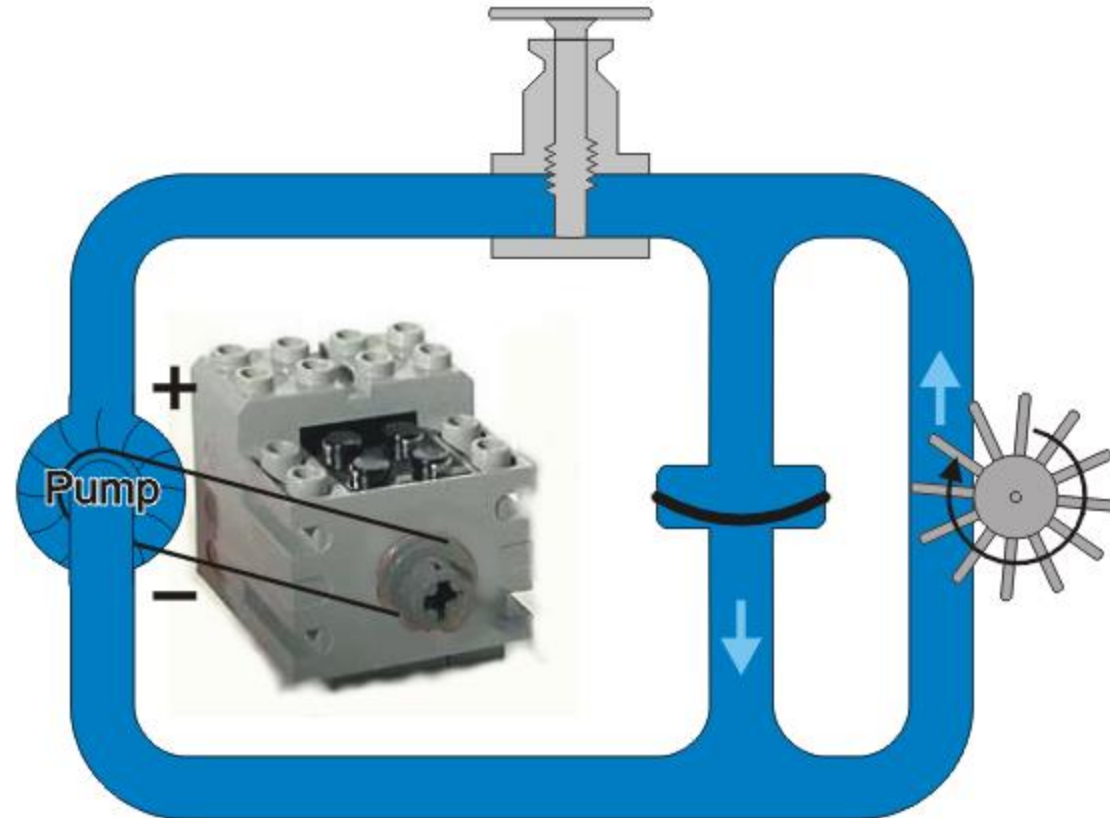

Fig 26: The membrane begins to stretch down.
- Consequently, the membrane begins to stretch in the opposite direction, as is shown in **Fig.26**.